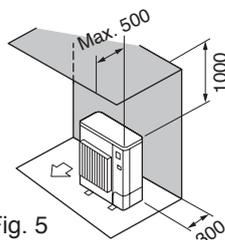

Fig. 5
- (2) Obstacles at rear and above only (Fig. 5)
- 2) Fit the washers and nuts (①, ②, procure locally) to the suspension bolts. (Fig. 5)
- (A) When unit is hung and nuts tightened
- (B) Suspension bolt
- (C) Nuts
- (D) Washer (with cushion) ①
- (E) Ensure that cushion faces downwards
- (F) Washer (without cushion) ②
- (G) Nut (procure locally)
- This unit may only be installed vertically, as shown in the diagram. (Side **D** in Fig. 5 is facing up.)